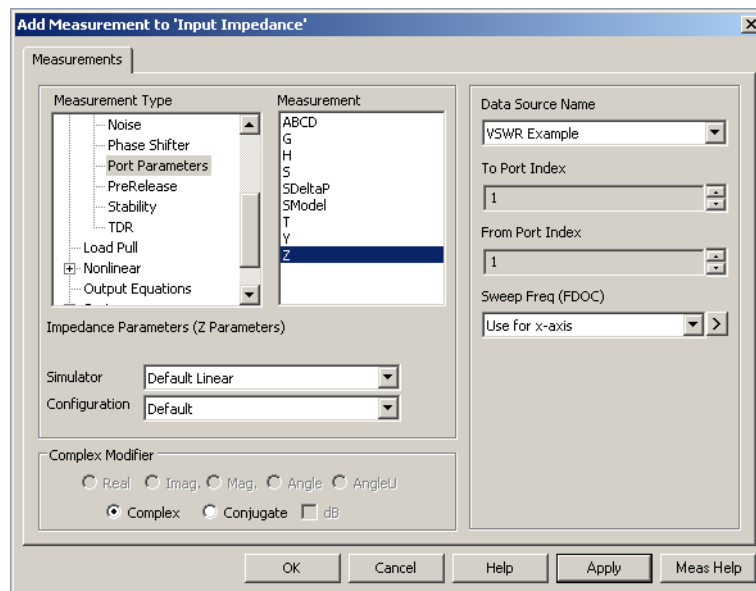

Figure 5.3: Chart 3 : Add Measurement Dialogue Box (Input Impedance)
- Change your measurement dialogue box to match figure 5.3.